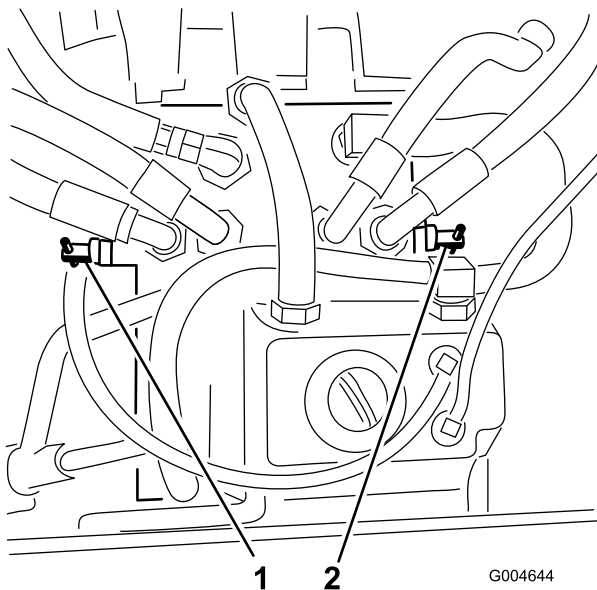

Figure 33
3. Rotate each by-pass valve counterclockwise 1 turn (Figure 33).
Rotate each by-pass valve clockwise 1 turn and hand tighten them (torque of approximately 71 in-lb (8 N·m)) (Figure 33).